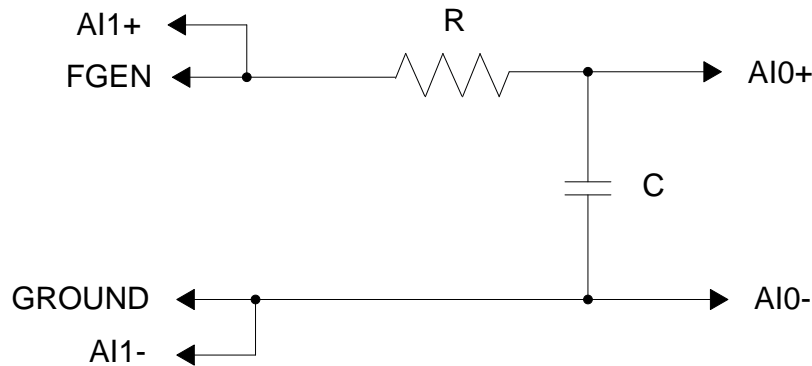

Fig. 11. RC Filter connectivity for AC Characterization.
2. Connect the RC filter circuit on the proto board as shown in Fig. 11. The input signal for the filter is obtained between 'FGEN' and 'GROUND' pins. The input signal is also connected to Analog Channel-0 (between AI1+/AI1-) and the output signal across the capacitor is connected to Analog Channel-1 (AI0+/AI0-). Connections on the Analog Channels 0 and 1 are used for oscilloscope SFP as further explained in the following steps.
- Retain the circuit configuration from the previous section. Note that the circuit should be setup as shown in Fig. 11.